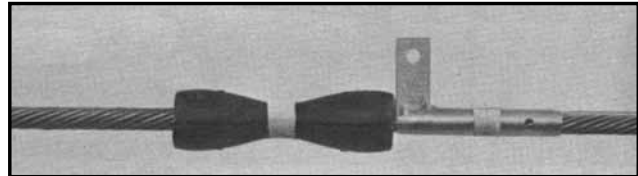

Figure 5
3.01 Align the centermarks of the inserts with the centerline of the applied reinforcing rods. Be sure to position inserts so that the joining faces are parallel to the ground. Tape in place with a thin layer of tape (Figure 5).
3.02 Position the Current Transfer Tab with the short leg of the tab resting lightly against the inserts. Tape in place with a thin piece of tape (Figure 5). Tab may be positioned with short legs down or in any convenient position. (For ADSS installations, omit this step and any other Current Transfer Tab instructions).